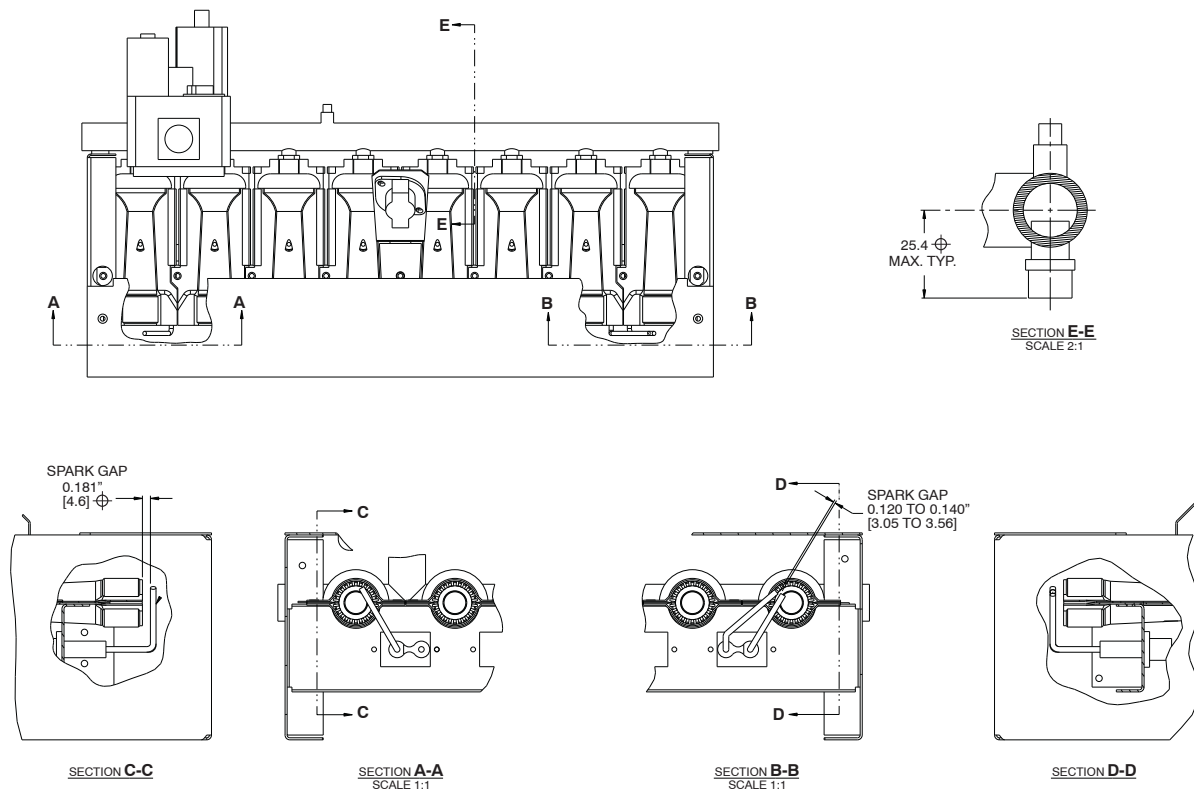

Fig. 39 - Spark Gap Adjustment
4. Adjust spark gap. (See Fig. 39.)